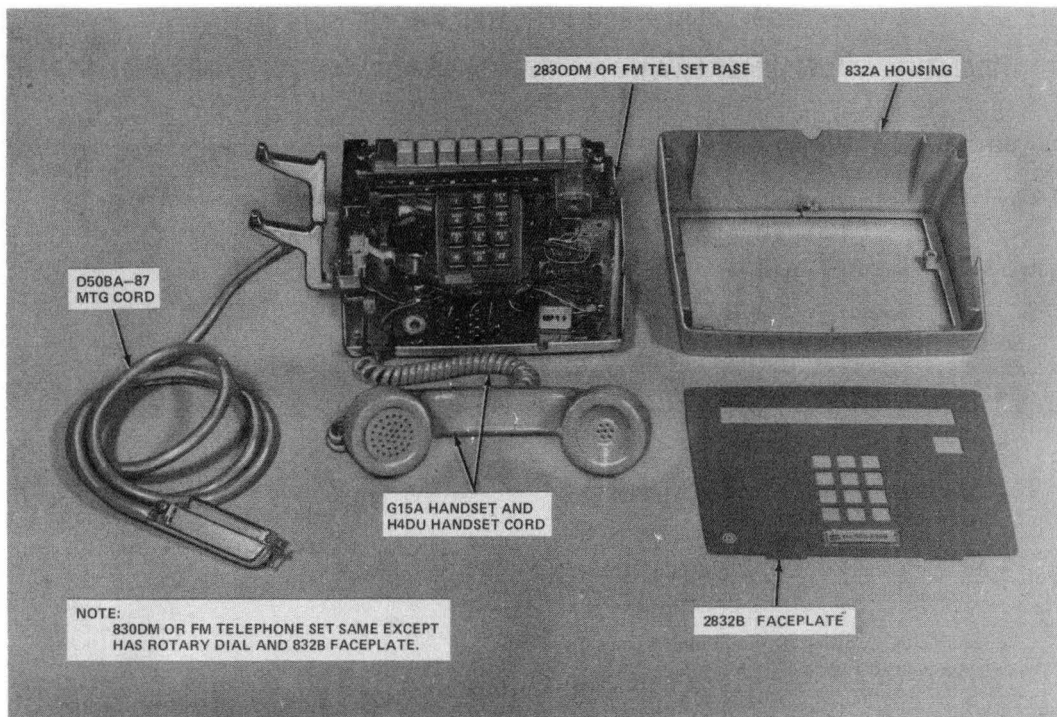

Fig. 3—Station Modular Arrangement 2830DM (MD) or 2830FM Telephone Set
- Add Table A, ordering guide and replaceable components, Fig. 3
3.01 Install the completely assembled telephone set or assemble the required components to the telephone set base (Fig. 3).